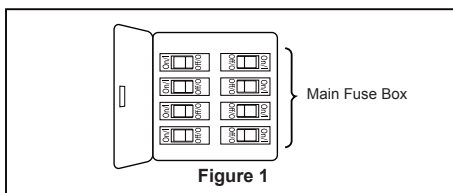
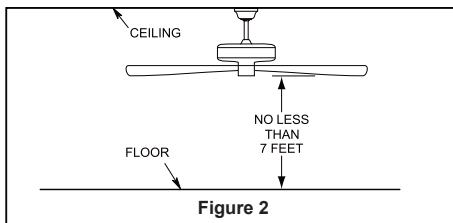
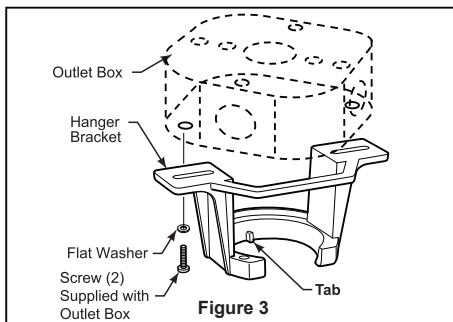

Figure 1
Figure 2
Figure 3
Your new ceiling fan will require a grounded electrical supply line of 120 volts AC, 60 HZ, 15 Amp Circuit. Electrical code requires use of a fan-rated outlet box to support the extra weight and motion associated with a ceiling fan. A fan-rated box will be labeled as such and typically supports up to a 70lb ceiling fan. Fan-Rated Outlet Boxes vary in ratings and design. Ensure the ratings of your ceiling fan outlet box meet the requirements for the ceiling fan being installed. Figure 1, Figure 2 and Figure 3 depicts different structural configurations that may be used for mounting the outlet box.
Low profile box (Figure 1)
Deep box (Figure 2)
Deep box with brace (Figure 3)
1. Remove the hanger ball portion from the downrod/hanger ball assembly by loosening the set screw in the hanger ball until the ball falls freely down the downrod. Remove the pin from the downrod, then remove the hanger ball. Retain the pin and hanger ball for reinstallation in Step 6. (Figure 1)
2. Remove the hairpin clip and clevis pin from the bottom of the downrod. Retain the pin and clip for reinstallation in Step 4. (Figure 2)
3. Loosen the two set screws and locking nuts in the downrod support of the motor assembly. Route the brown, blue, red, gray and yellow wires through the downrod. (Figure 3)
1. Slide blades through slots in motor assembly. Make sure the blade is fully seated against the blade holder of motor assembly. Place blade plate over the blade with holes aligned and assemble blade to blade holder using serrated head screws. Tighten screws firmly, but do not over-tighten. (Figure 1)
To avoid possible fire or shock, be sure electricity is turned off at the main fuse box before hanging. (Figure 1)
The fan must be hung with at least 7' of clearance from floor to ceiling fan. (Figure 2)
1. Securely attach the hanger bracket to the outlet box (not included) using the outlet box screws and washers supplied with the outlet box. (Figure 3)
1. To set the code on receiver unit, slide dip switches to the same positions as set on the remote control. (Figure 1)
To avoid possible electrical shock, be sure electricity is turned off at the main fuse box before wiring. (Figure 2)
2. Slide the receiver into the hanger bracket before wiring as shown in figure 3.
1. Assemble canopy by rotating key slot in canopy over shoulder screw in hanger bracket, taking care not to pinch the wires. Tighten shoulder screw. Fully assemble and tighten second shoulder screw that was previously removed. (Figure 1)
2. Securely attach and tighten the canopy screw cover over the shoulder screws in the hanger bracket utilizing the key slot twist-lock feature. (Figure 2)
1. Remove one of the three screws in the support bracket at the bottom of the motor assembly. Retain the screw for later and slightly loosen the remaining two screws. (Figure 1)
2. Assemble the light kit to the support bracket using the two key slots in the light kit. Replace the previously removed screw and securely tighten all three screws. (Figure 2)
3. Remove one of the three screws in the light kit. Retain the screw for later and slightly loosen the remaining two screws. (Figure 3)
1. **IMPORTANT:** Using a full range dimmer switch (not included) to control fan speed will damage the fan. To reduce the risk of fire or electrical shock, do not use a full range dimmer switch to control the fan speed. (Figure 1)
2. Restore electrical power to the outlet box by turning the electricity on at the main fuse box. (Figure 2)
3. Remove the battery cover from remote control by screwdriver and retain the screw for later. (Figure 3)